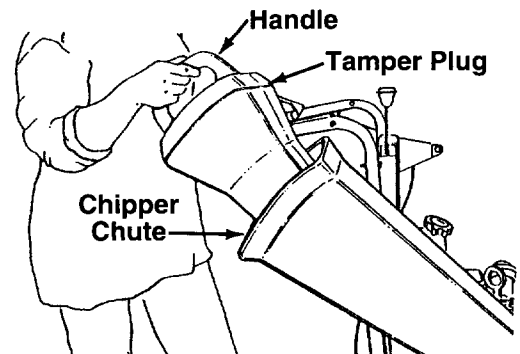

FIGURE 8.
- Match the angle of the tamper plug with the angle of the chipper chute. See figure 8.
- If necessary, use the tamper plug to push the material into the chipper chute. See figure 8 for the location of the tamper plug.